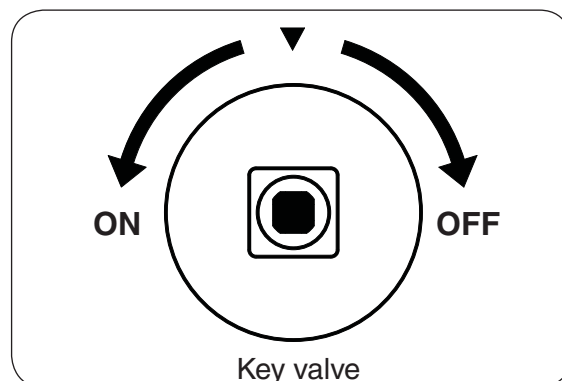

Fig. 19-2
4. **Once the match is burning and in position**, slowly turn the key valve counter-clockwise toward the **ON** position until it no longer rotates (see Fig. 19-2). Your burner should light.
**To extinguish your gas burner**, insert the key into the key valve and turn the valve clockwise toward the **OFF** position until it no longer rotates (see Fig. 19-2). Be sure the control knob is turned fully off to avoid any gas leakage.